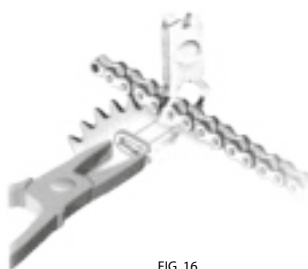

FIG. 16
7. Insert the new connecting link (A) from the back.
8. Install the connecting plate (B).
9. Install the spring clip (C) with the edges in the direction opposite to the chain rotation, using pliers (fig. 16).
10. If using a slip fit **type 26** link, with the help of special pliers (P/N 805203) strongly press together the two plates of the connecting link overcoming the elastic resistance of the O-Rings and expose the grooves on the pins (fig. 16). If using a press fit **type 42** link, use the tool P/N 805187 with the special punch P/N 805187-4-B to rightly position the external plate. If the tool is not available, strongly clamp the plates together until, the outer plate touches against the purpose-built larger diameter of the pin, requires a hammer for press fitting its external plate onto the pins, applying a second hammer on the back side, in contact with the pins' head (alternatively use a pliers with a straight plate on the back side in contact with the pins' head).
11. Install the spring clip (C) with the edges in the direction opposite to the chain rotation, using pliers (fig. 16).